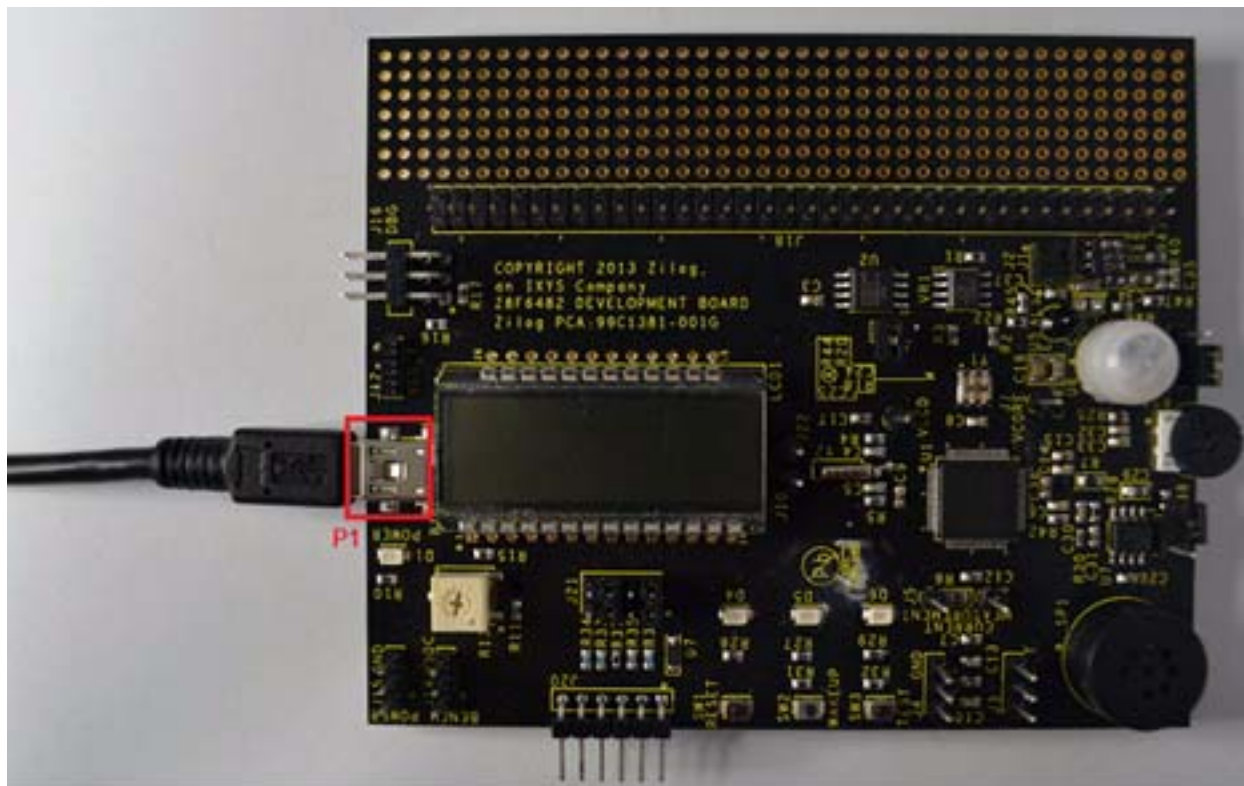

Figure 5. Power Supply Port P1 Connector
4. With the USB A (male) to Mini-B cable, connect Port P1 on the F6482 Series Development Board to a USB port on the development PC to apply power to the Development Board, as highlighted in Figure 5.